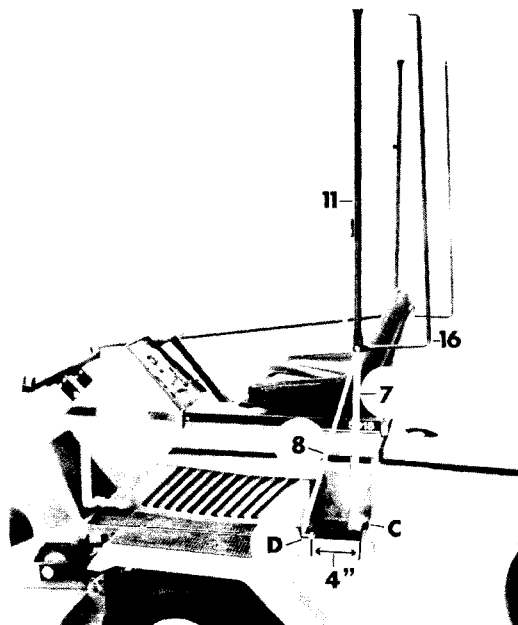

FIGURE 6
STEP 6; SEE FIGURE 6:**FOR GAS MODELS:**
- A. Remove the body mount bolt at REFERENCE C. Place the left REAR BRACKET (7) on the body mount, replace the bolt and tighten the nut.
- B. Remove the bolt at REFERENCE D. Place two $\frac{5}{16}$ " flat washers over the hole and then the bent end of the REAR BRACE (8). Insert a $\frac{5}{16}$ " x 1" bolt with a $\frac{5}{16}$ " lockwasher into the hole do not tighten yet. (Add a $\frac{5}{16}$ " locknut for models with drilled hole.)